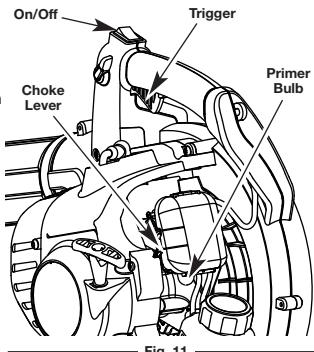

Fig. 11
3. Fully press and release the primer bulb 10 times, slowly. Some amount of fuel should be visible in the primer bulb and fuel lines (Fig. 11). If you can't see fuel in the bulb, press and release the bulb as many times as it takes before you can see fuel in it.
**HOT RESTART:** If the unit is already hot, place the choke lever in **Position 3** and pull the starter rope to restart. The unit should be started in idle. Do not squeeze the trigger while starting (Fig. 11).